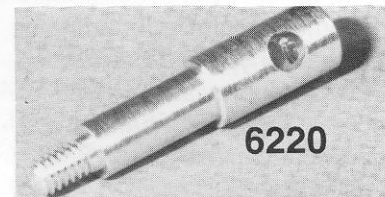
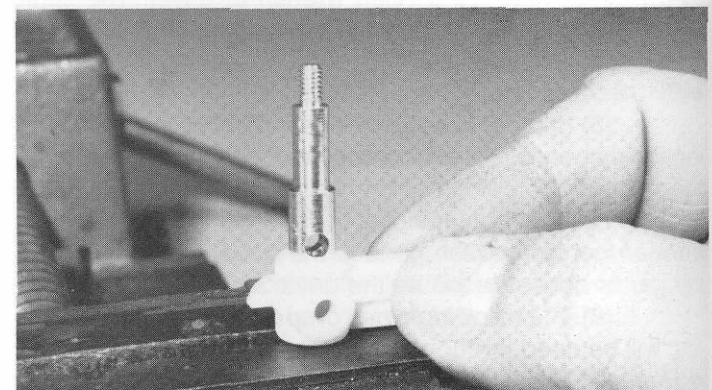

Fig. 5
Fig. 6
□ **Figs. 5 & 6** Remove the two #6220 aluminum inline front axles from bag #6-1 (fig. 6). Install one axle in each #6221 nylon steering blocks (fig. 7), making sure that the hole in each axle lines up with the hole in the steering block. The parts should push together with your fingers; if they don't, fit a 1/4" nut driver over the threaded end of the axle and then push the axle into the steering block. **WARNING!** Threads on the end of the axle are aluminum and can be easily damaged by the nut driver. Repeat the process for the second axle and steering block.